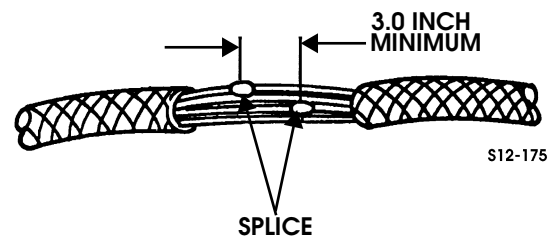

Figure 12-16: Multiple Wire Splice
3. After completing the wire repair, apply two layers of vinyl adhesive electrical tape over the affected area to complete the repair (Figure 12-16).